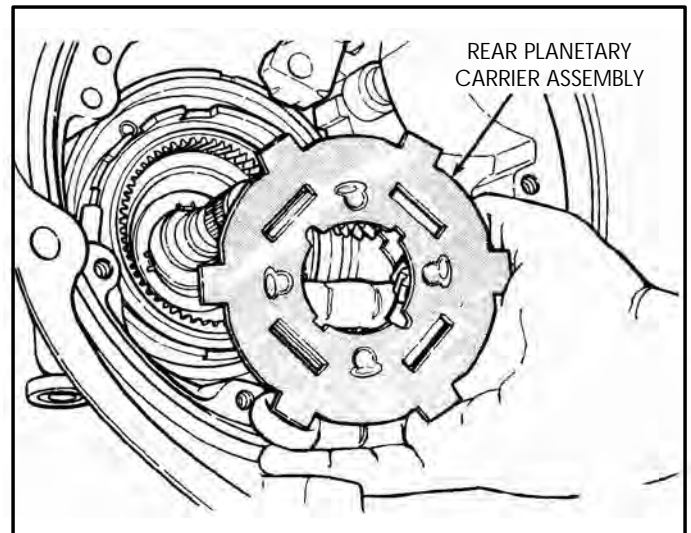

Figure 223
5. Install the rear planetary carrier assembly into the case ensuring engagement with the ring gear, as shown in Figure 223.